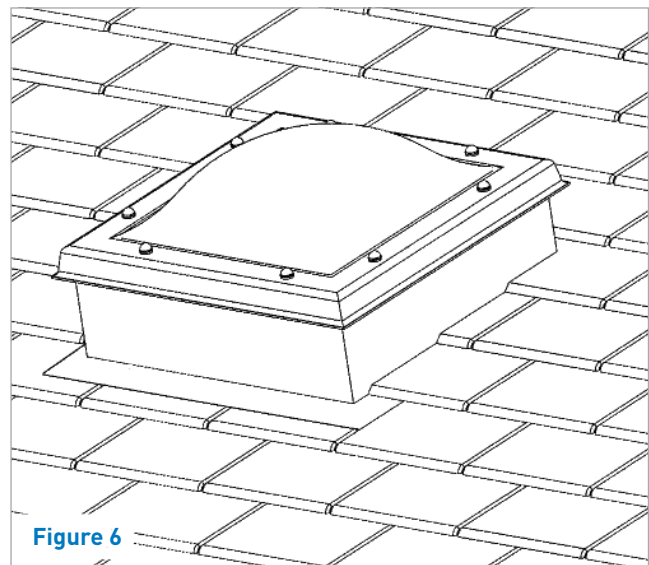

Figure 6
3. Fix to the kerb by means of security screws and cover caps supplied (Figure 6).